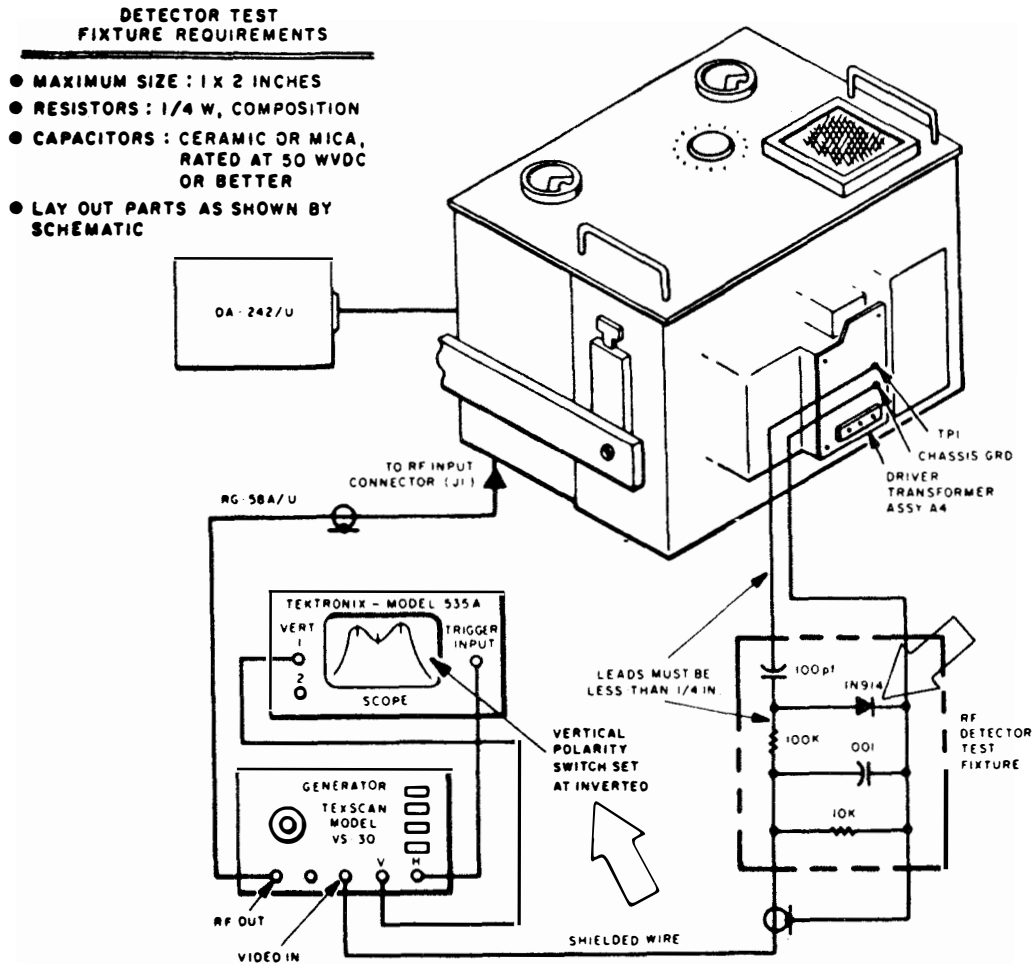

Figure 5-1. Driver Transformer Alignment, Test Setup
5-22. A small detector network will be required during alignment of the AM-3924(P)/URT. Figure 5-1 shows the components. Use one-quarter watt composition resistors, and ceramic or mica capacitors rated at or above 50 volts. The parts should be mounted on a surface no larger than 1/2 inch by 3/4 inch, and connected with leads not exceeding 1/4 inch.
- e. Connect output of Texscan model VS-30 sweep generator to 1A1J1 on rear of AM-3924(P)/URT chassis. Connect Tektronix model 535A oscilloscope as shown in figure 5-1.
- f. Connect test fixture fabricated in paragraph 5-21 as shown in figure 5-1.